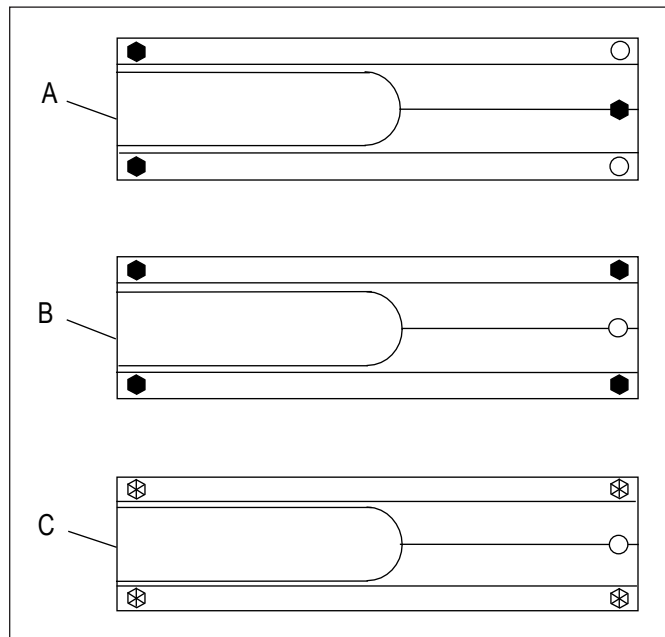

Fig. 4
In order to place the drive unit on plane surfaces, the support feet have to be arranged for three-point support (see *arrangement A in Fig. 4*):
For measuring cylindrical testpieces with diameters of more than 72 mm (2.835 in), the four-point support must be selected (see *arrangement B in Fig. 4*).
2. Insert the four screws which hold the support prism (see *arrangement C in Fig. 4*) and tighten them with the Allen wrench (A/F 2)